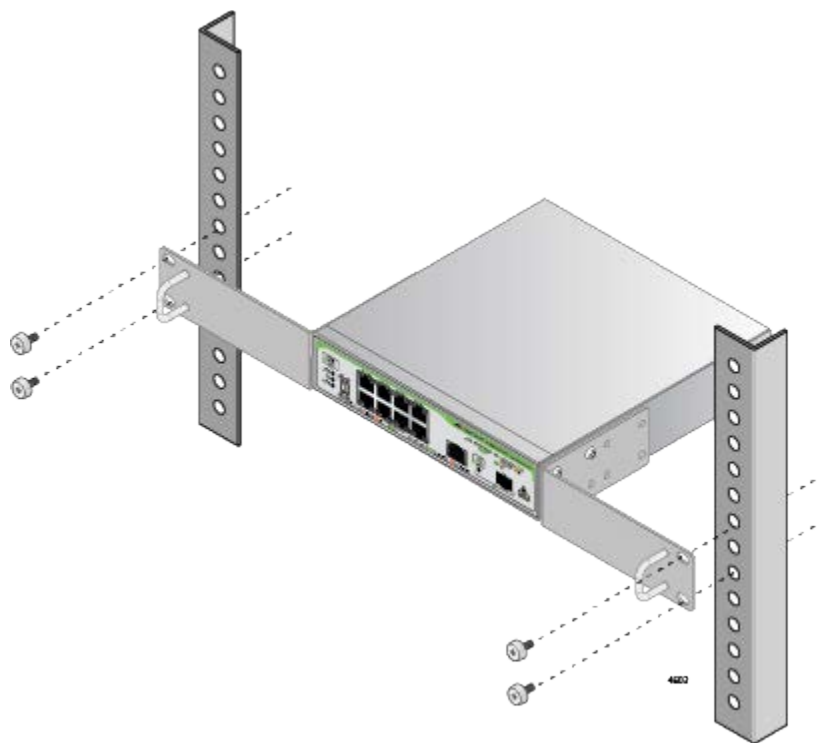

Figure 38. Mounting the Switch in an Equipment Rack
5. While another person holds the switch in the equipment rack, secure it with standard equipment rack screws as shown in Figure 38.